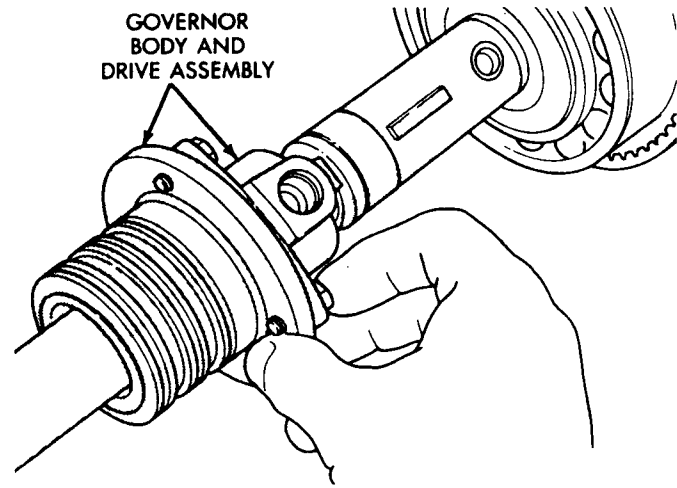

Fig. 18 Governor Body And Drive Assembly Removal
- (3) Remove governor body and drive as assembly (Fig. 18). Set assembly aside for disassembly, inspection, and overhaul. Refer to Governor Overhaul procedures.